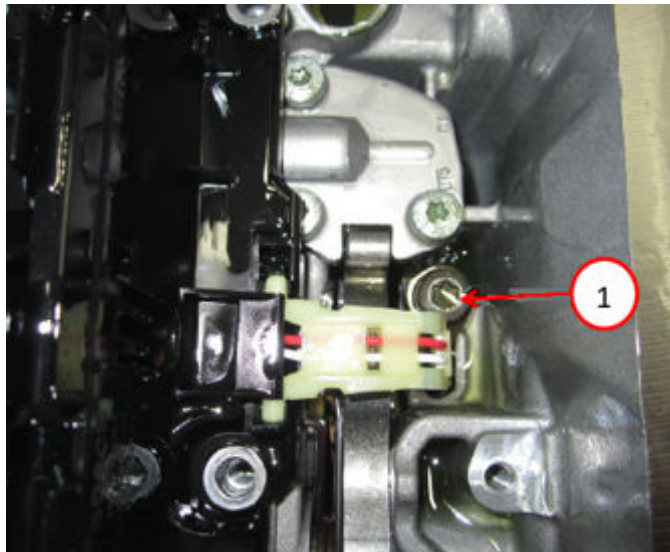

Fig. 10
15. Remove the Output Speed Sensor (OSS) bolt and gently lift the OSS out from the case Fig. 10.